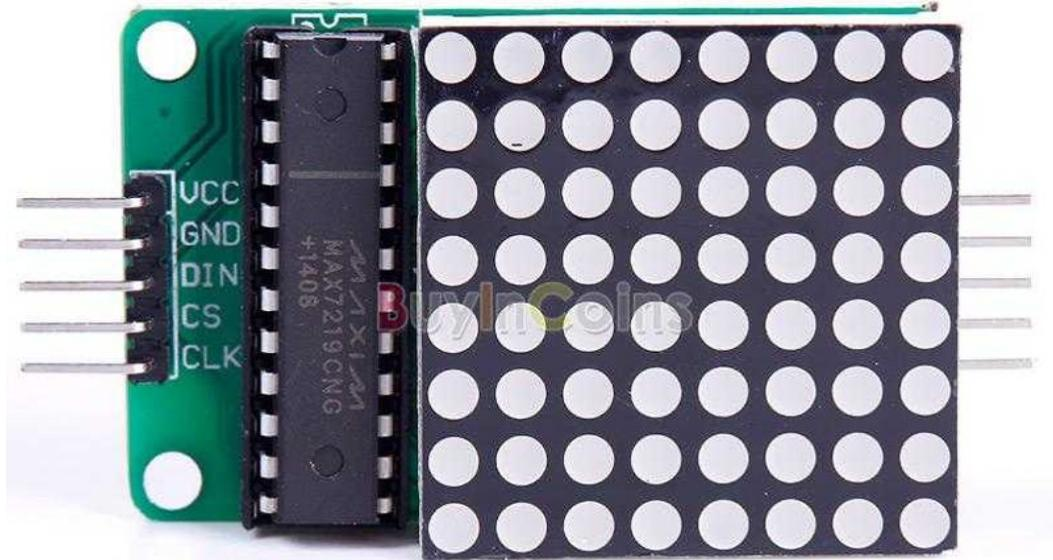

FIG. 1.2 : LED matrix
2. the LED matrix and the MAX7219 as you can see on fig 1.2. The five inputs that we talked about before are visible in the figure. From these entries, we will connect the DE1-SOC to display what we want on the LED matrix.